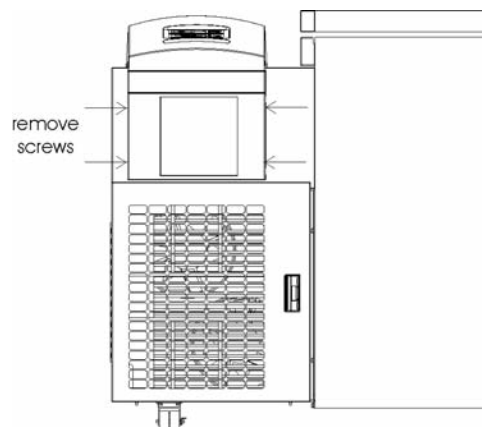

Figure 4
12.7 and larger chest freezers: Remove the four screws holding the recorder bezel and remove bezel to gain access to the micro board. See Figure 4.